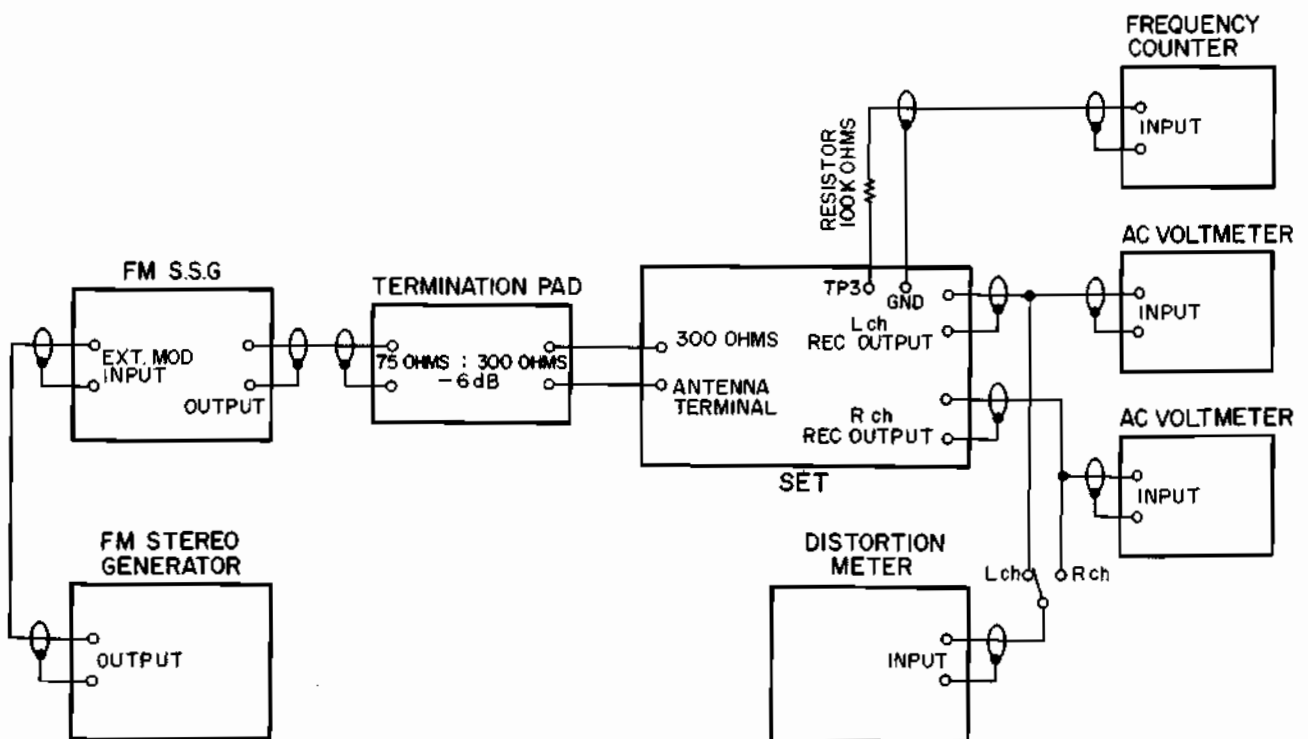

Fig. 8 Instrument Connections
- When the specified sensitivity of 6 dB cannot be obtained at the two frequency points, 88 (78) MHz and 108 (88) MHz, repeat the adjustment as described in Step 9.
- When connecting a Frequency Counter, connect from TP via a 100 kohms resistor. (Refer to Fig. 8)